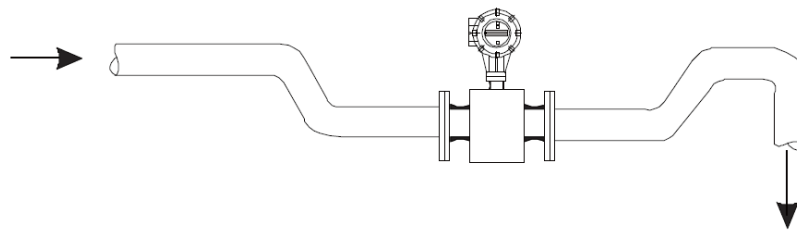

Figure 15
6. For open discharge pipelines, the magnetic flow meter should be installed in the bottom section (lower part of the pipe) as shown in Figure 15.